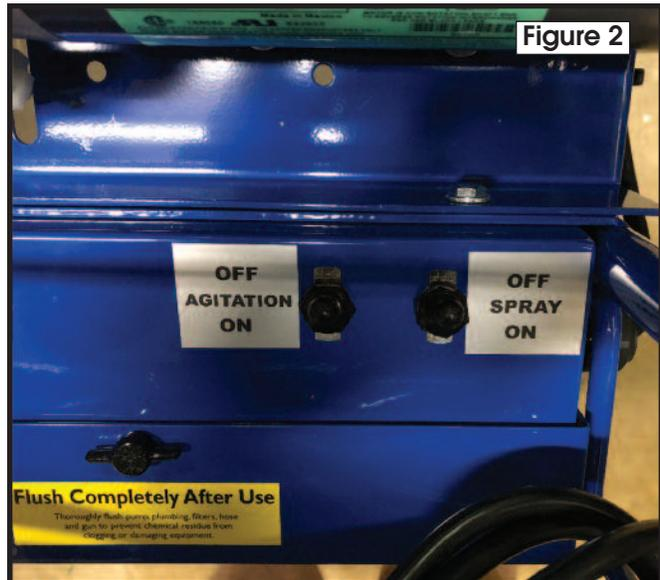

Figure 2
2. With the tank full of water, turn the Agitation Pump on using the switch marked "Agitation" (see Figure 2)
4. Turn on the main Spray Pump using the switch marked "Spray" (see Figure 2).